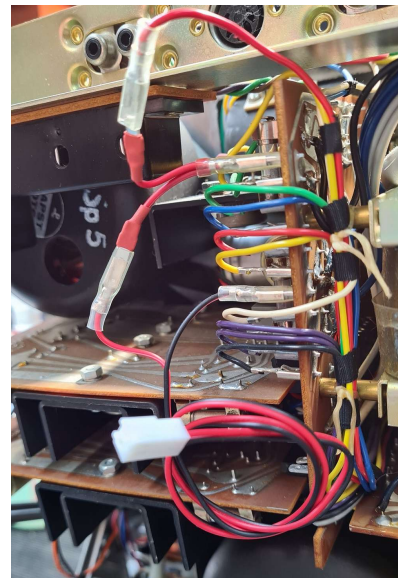

Figure 6
- Connect the small red adapter to terminal 1 of the board, and reconnect the red cable to the adapter.(Figure 6)